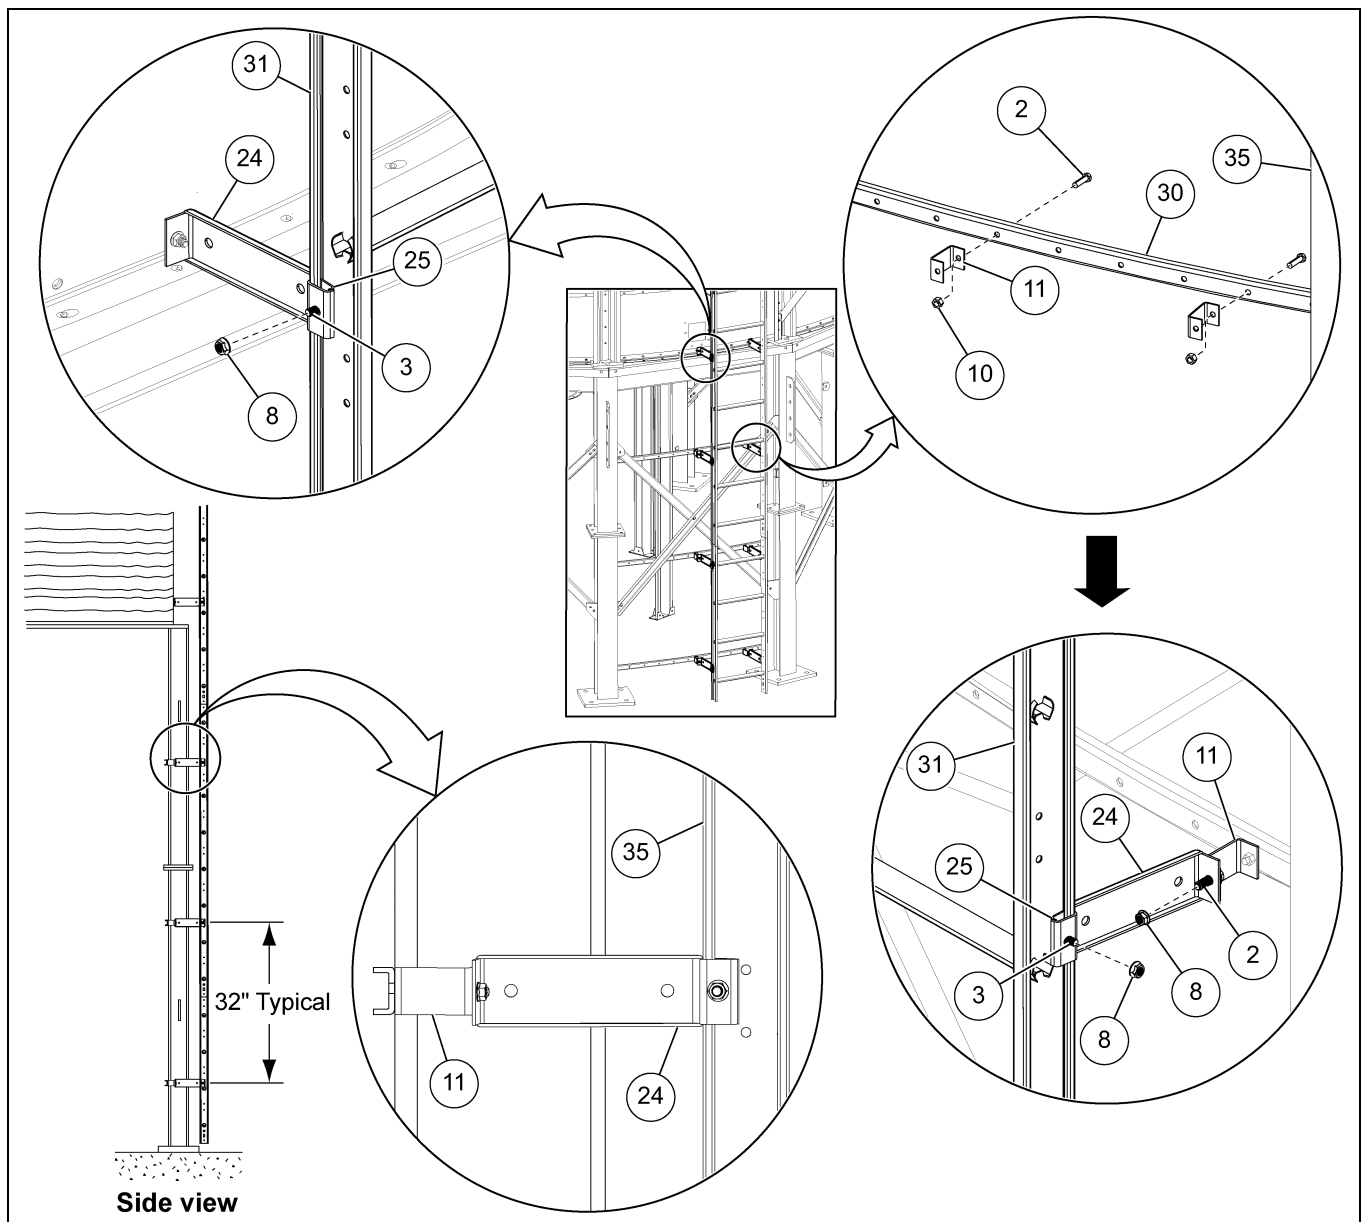

Figure 7H Installing the Ladder at the Base
2. Similarly install the remaining support channels (30). Check for the ladder position and install two ladder brackets (11) to each of the support channel (30) using 5/16" x 1" flange bolts (2) and 5/16" nuts (10).
3. Install the ladder stand-off brackets (24) to each of the ladder brackets (11) using 5/16" x 1" flange bolts (2) and 5/16" flange nuts (8).
4. Slide the ladder wedge (25) along the ladder rail (31) and install it to the stand-off bracket (24) using 5/16" x 1" carriage bolts (3) and 5/16" flange nuts (8). (See Figure 7H.)